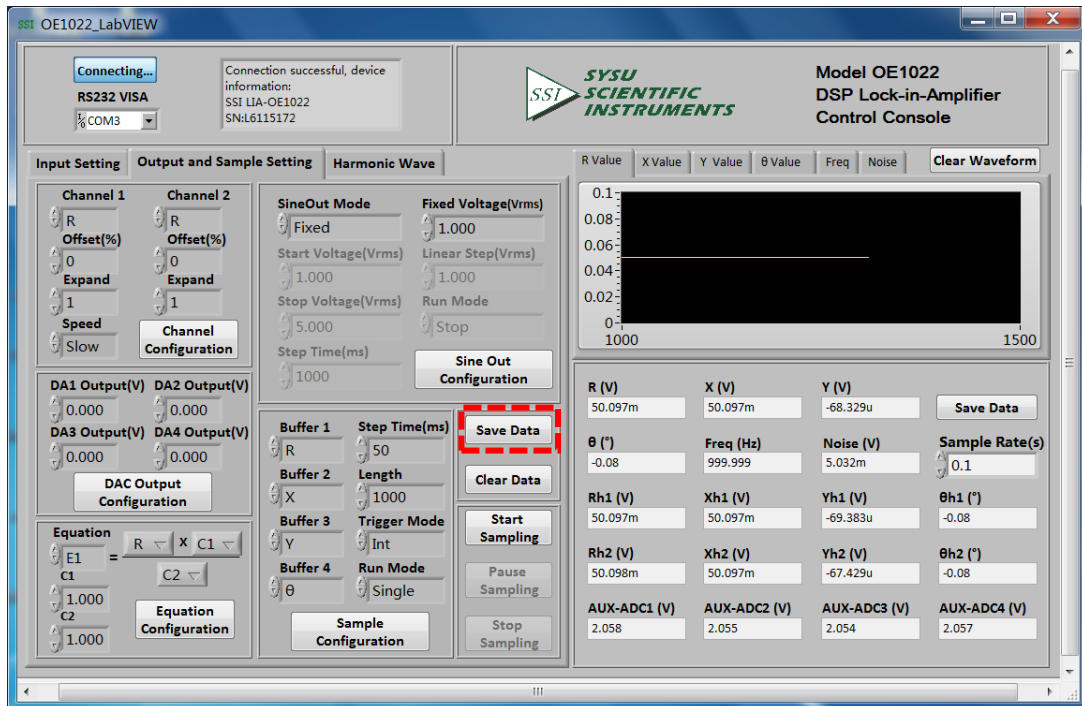

Fig.85 Save the Collected Data
- When the progress bar runs to 100%, the collection for data is finished. Now if you want to save data, just click the button **Save Data** in red box in Fig.85.